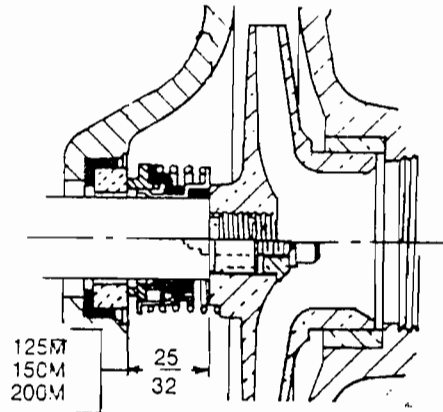

FIG. 7
- (b) Check dimension from face of ceramic seat to shaft shoulder. This distance should be as noted in Figure 7 within a tolerance of ± 1/64.